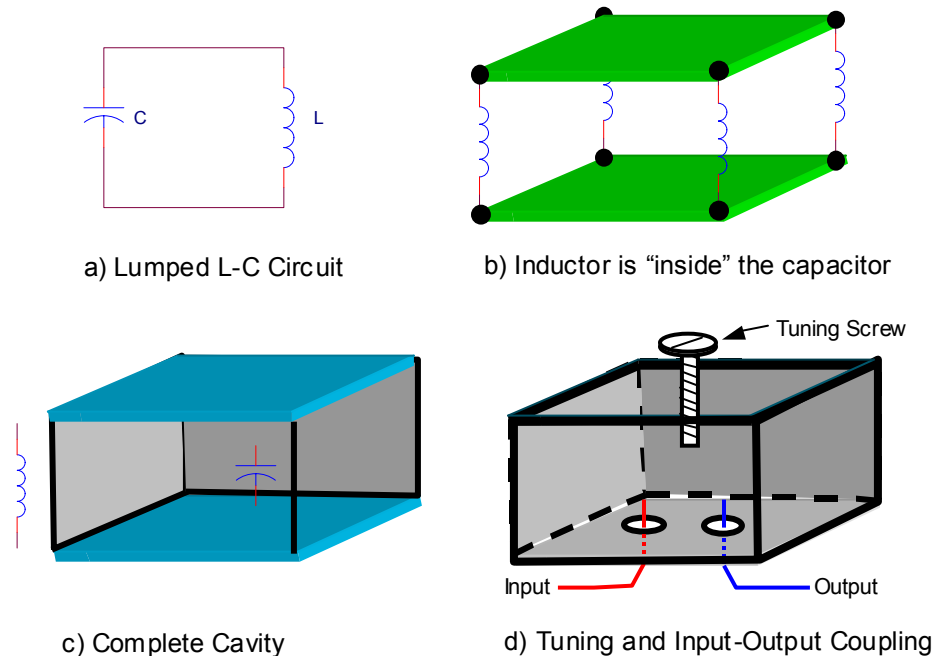

Figure 13-3: Development of a Cavity Resonator
Suppose that we wish to build an LC resonant circuit to act as a bandpass filter at a frequency of 10.24 GHz. We *could* try building the circuit from a discrete capacitor-inductor combination (and we can still think in those terms, of course). The circuit might look a little like Figure 13-3(a).
Now we need to reduce the leads to near zero length to get this circuit work at microwave frequencies. Imagine that we can somehow put the inductor right inside the capacitor, in between its plates. In order to reduce the effect of the inductor's own lead lengths, we will *distribute* it evenly in four parts around the capacitor's plates. This is Figure 13-3(b). Figure 13-3(c) is the completed filter, which is implemented as a *cavity resonator*. Where did the inductor go? It is *distributed* within the walls of the cavity. The longer the cavity is built, the more inductance it will have, and the lower its resonant frequency will become.
- 13-8 Describe how the transmission line sections in the amplifier of Figure 13-3 are fabricated.